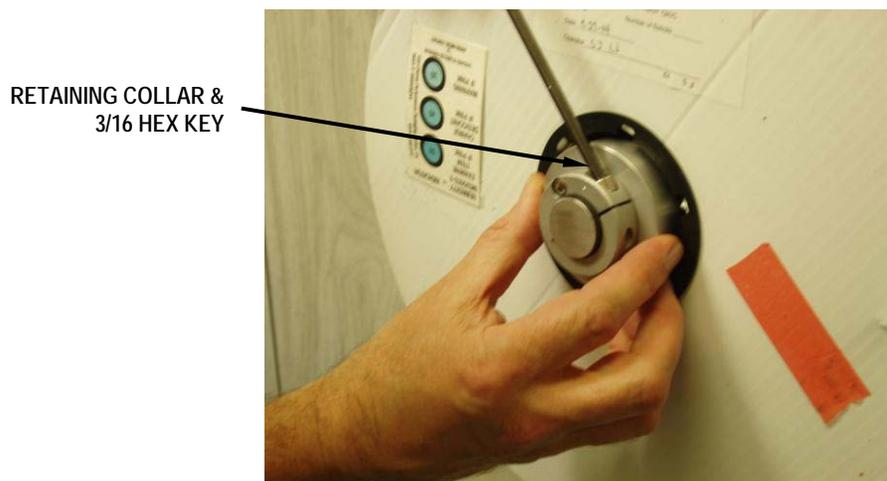

Figure 6.1
- 6A. Install the supply roll on the shaft of the Supply Roll Stand. First loosen and remove the retaining collar using a 3/16 hex key (fig. 6.1). The roll should be installed to unwind from the top. Re-install the retaining collar, making sure to engage to pin on the retaining collar with the hole in the roll hub.